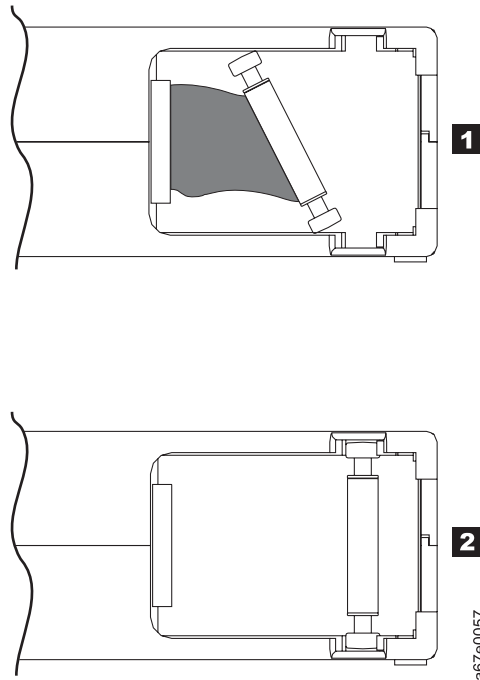

Figure 6-8. Leader pin in the incorrect and correct positions. The cartridge door is open and the leader pin is visible inside the cartridge.
- Check that the leader pin is properly seated (see **2** in Figure 6-8 on page 6-12).
- Do not drop the cartridge. If the cartridge drops, slide the cartridge door back and ensure that the leader pin is properly seated in the pin-retaining spring clips (see **2** in Figure 6-8 on page 6-12). If the leader pin has become dislodged, go to “Repositioning or Reattaching a Leader Pin” on page 6-11.
Example: Improper Placement of Leader Pin (see Figure 6-8 on page 6-12)
A leader pin that is improperly seated inside a cartridge can interfere with the operation of the drive. Figure 6-8 on page 6-12 shows a leader pin in the incorrect **1** and correct **2** positions.